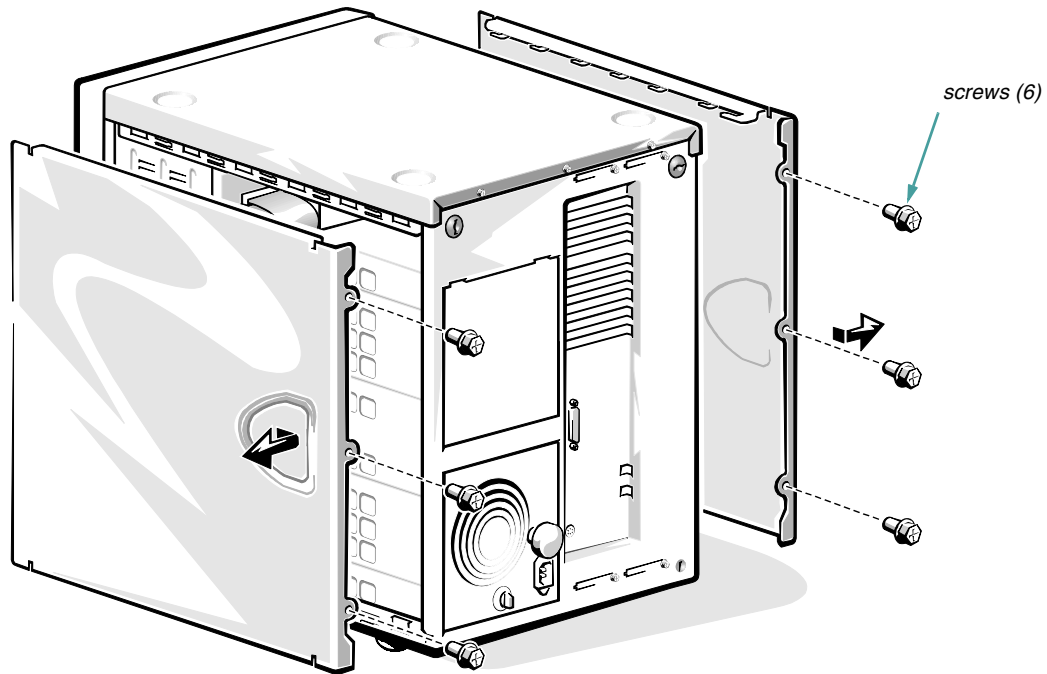

Figure 7-2. Removing the Computer Covers
3. Loosen the three screws along the back edge of the cover (see Figure 7-2).